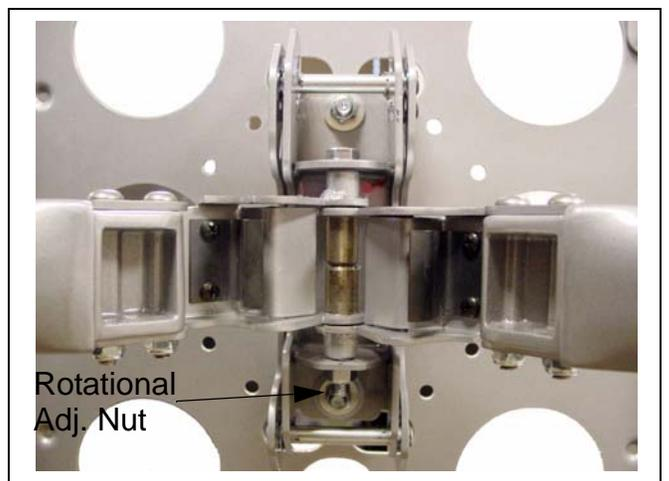

Figure 15: Rotational Adjustment
1. If necessary, loosen or tighten bottom rotational tilt tension adjustment nut (See Figure 15:).